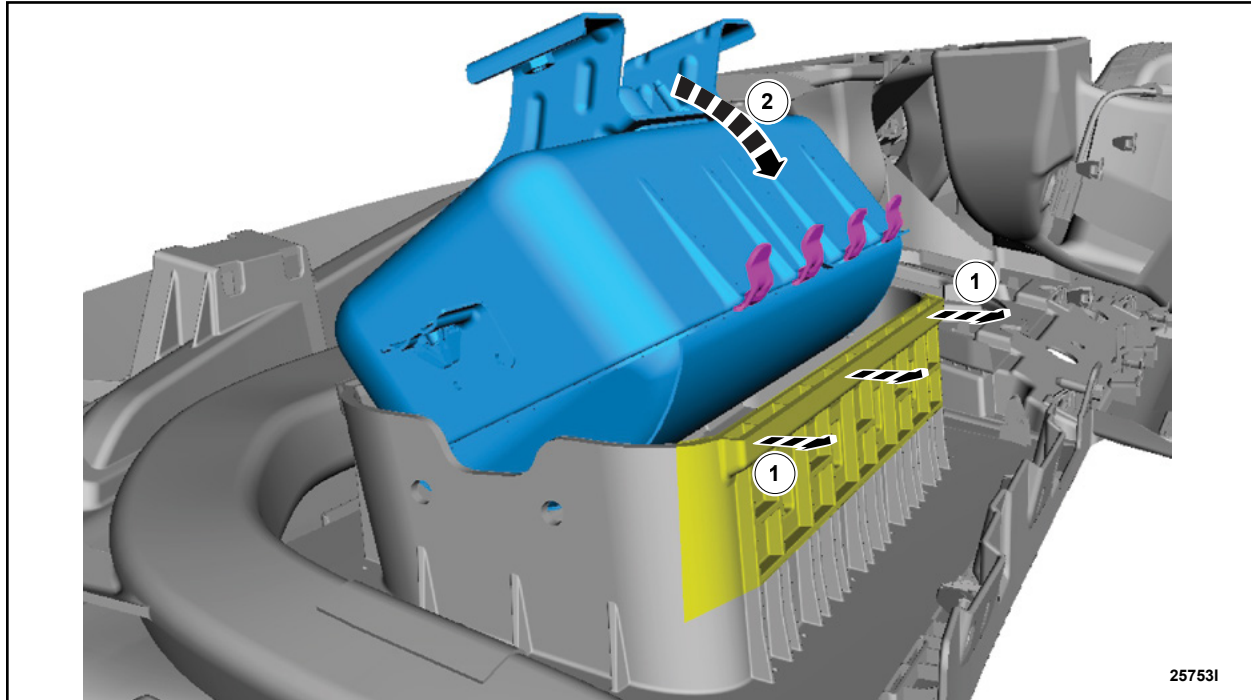

FIGURE 9
11. Install the passenger airbag into the deployment chute. See Figure 9.